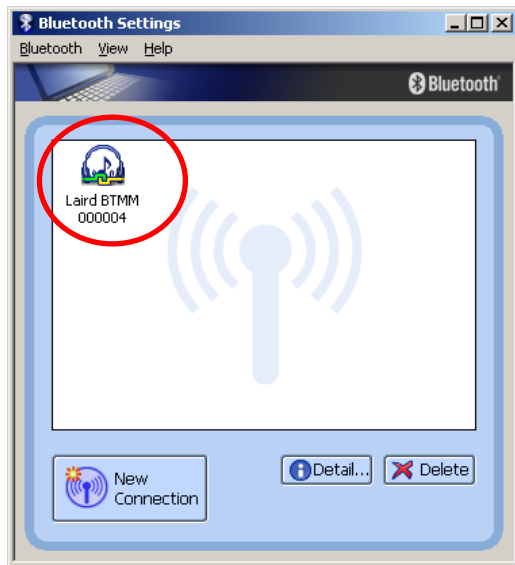

Figure 2-11: A2DP example 1: Connection established
6. Connection is initiated by PC - Figure 2-11